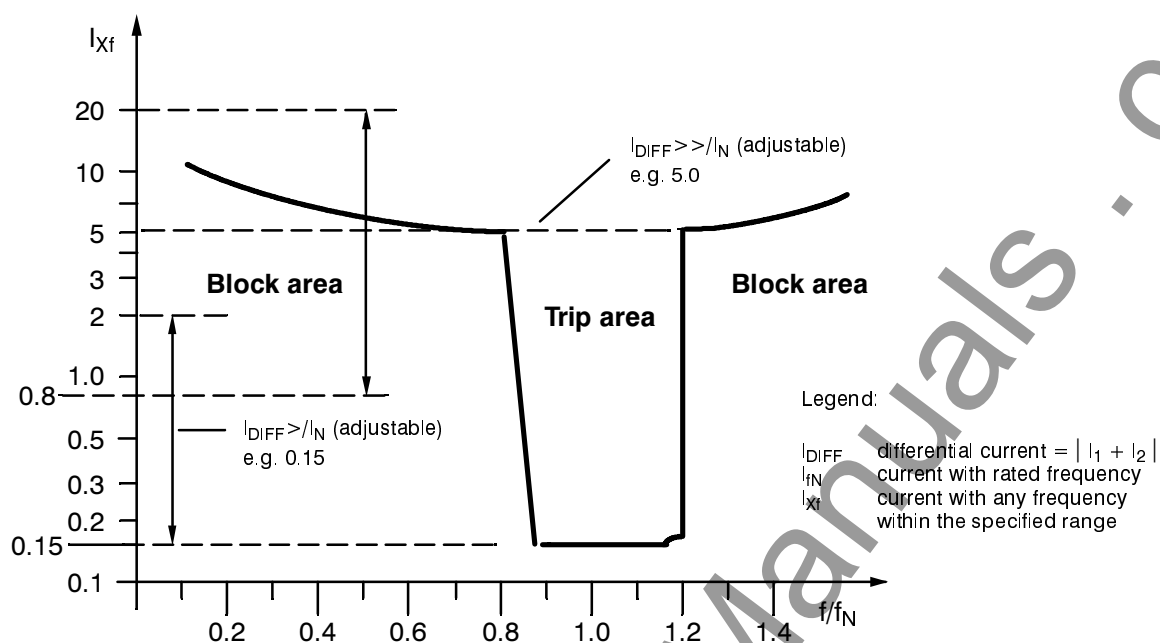

Figure 3.4 Frequency dependency (transformer protection)
- Frequency in range  $0.95 \leq f/f_N \leq 1.05$   $\leq 1 \%$  refer also to Figure 3.4